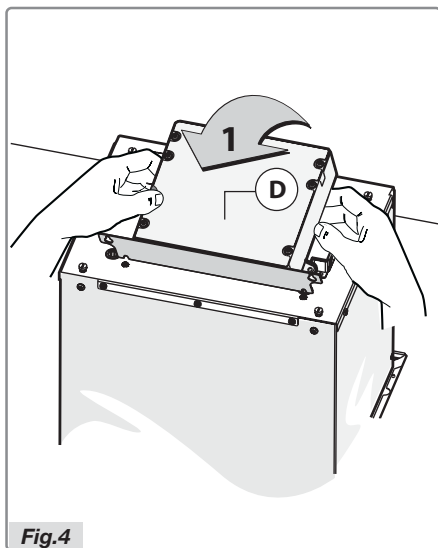

Fig.4
- Before installing the cooker hood fit the electric unit upright (Fig.4).